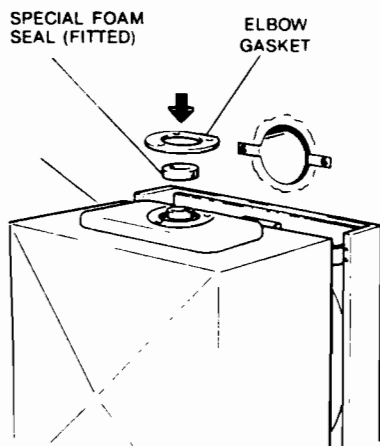

FIG. 22
f) Ensure the special foam seal is correctly positioned over the flue spigot on the top of the boiler (position the elbow gasket to align with the three holes on the top of the boiler with the flat to the rear) (see Fig. 22).